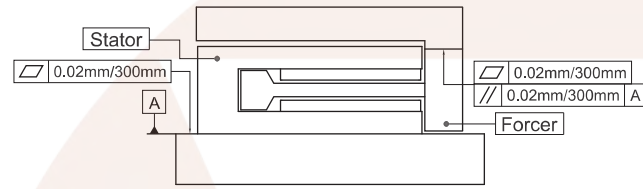

Fig1. Installation Interface geometric accuracy
**1-1** Installation interface with stator should have flatness of 0.02mm per 300mm, as shown in Fig1.
**1-2** Installation interface with forcer should have flatness of 0.02mm per 300mm and accuracy of 0.02mm per 300mm with reference to datum A as shown in Fig1.